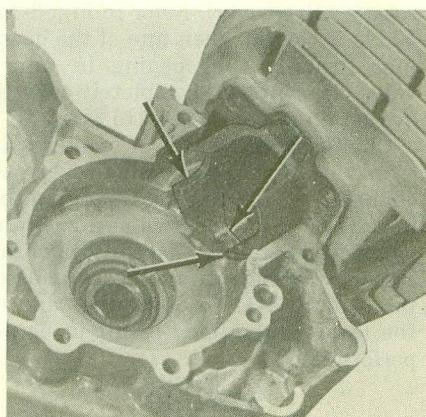

Fig. 3-11—The cylinder should match with crankcase openings. Arrows indicate locations of possible misalignment.
If the transfer ports and passages are reshaped; be sure that they are all alike and correct. The angle (A—Fig. 3-8) of the inlet passage and port (TA) determines the direction of the fuel-air charge entering the cylinder; if incorrect, fuel will be wasted and the cylinder will not be cleared of old gases. The transfer passage in crankcase, gasket, cylinder, and sometimes piston skirt, should be matched to provide smooth, nonrestrictive flow. Refer to Fig. 3-11.